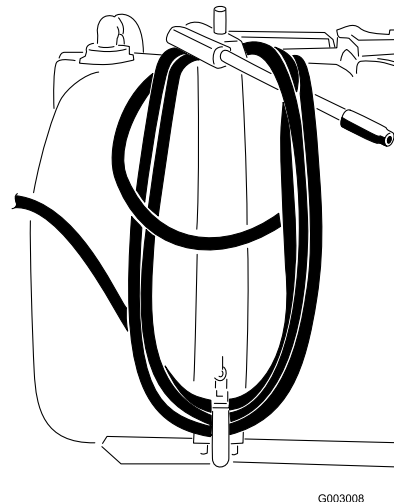

Figure 22
- Wrap the hose around the hooks on the tank and secure the gun as shown in Figure 22.